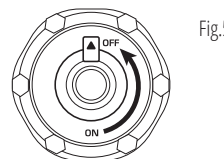

Fig. 5
7. After the generator stops, allow it to cool down and close the air vent on the fuel cap (set to "OFF", as shown in Fig. 5).